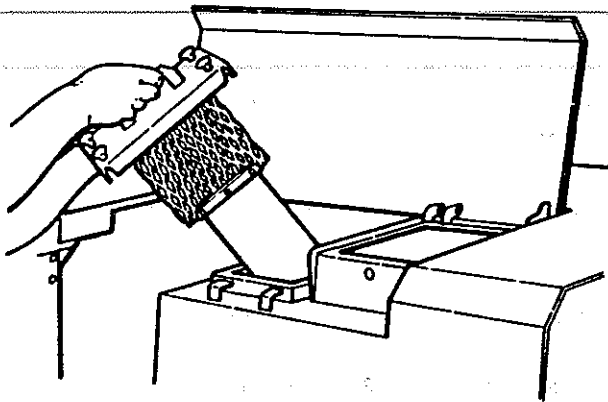

Figure 3-15. Ball Float Assembly
8. Remove the ball float assembly, see figure 3-15. Clear holes in the bottom of the ball float assembly, rinse and reinstall.